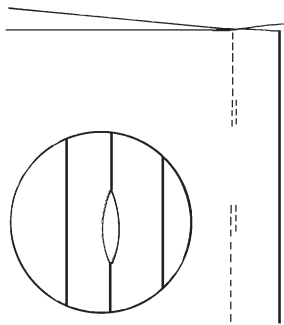

Fig. 12-12
2. Leave a $\frac{3}{4}$ -inch (2 cm) opening in the seam below the $1\frac{1}{4}$ -inch (3.2 cm) stitched seam. Complete the seam below the $\frac{3}{4}$ -inch (2 cm) opening. Backstitch at both ends of the seam. (Fig. 12-12)